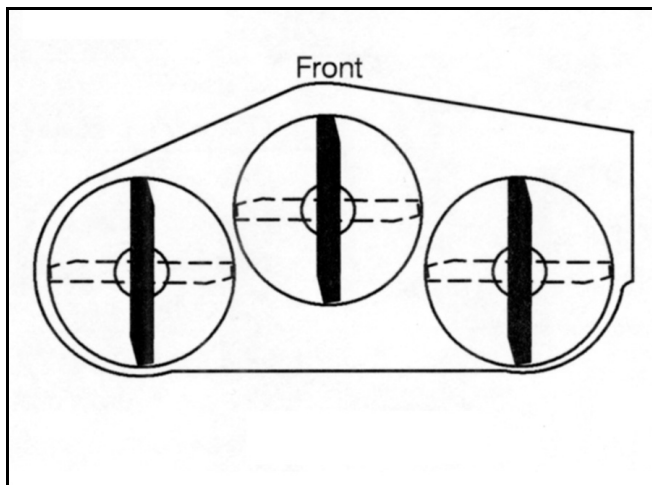
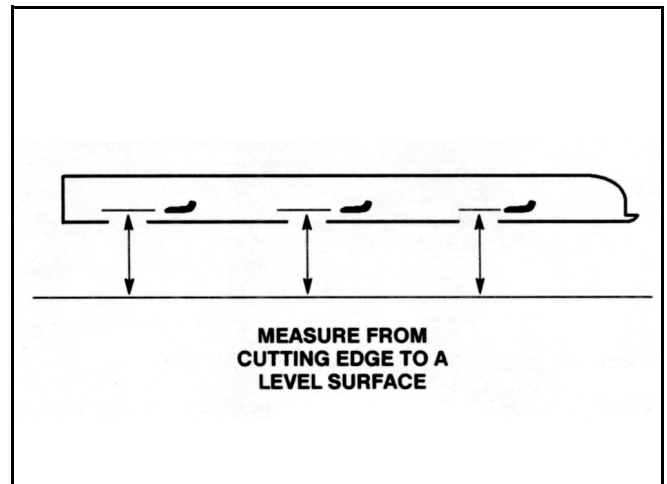

Figure 131
Figure 132
1. Rotate the blades until the ends face forward and backward (Figure 131). Measure from a level surface to the cutting edge of the blades (Figure 132). Note this dimension.